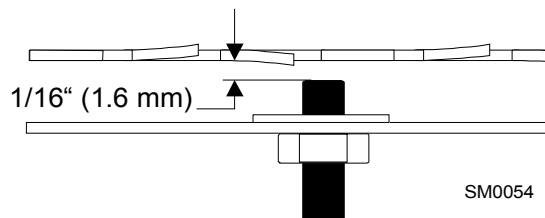

FIG. 3-1
**See Figure 3-1.** This chart lists estimated life expectancy of common replacement parts if proper maintenance and operation procedures are followed. Due to the many variables which exist during sawmill operation, actual part life may vary significantly. This information is provided so that you may plan ahead in ordering replacement parts.
See Figure 3-1.